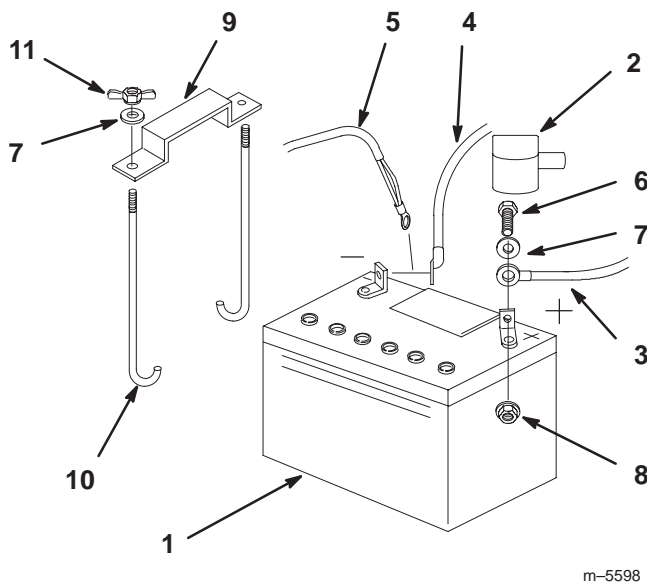

Figure 53
1. Position battery in tray with terminal posts toward the engine (Fig. 53).
4. Secure cables with 2 bolts (1/4 x 3/4 in.), 2 washers (1/4 in.), and 2 locknuts (1/4 in.) (Fig. 53).
6. Secure battery with J-bolts, hold down clamp and 2 washers (1/4 in.), and 2 wing nuts (1/4 in.) (Fig. 53).
3. First disconnect the negative battery cable and ground wire from the negative (-) battery terminal (Fig. 53).
4. Slide the red terminal boot off the positive (red) battery terminal. Then remove positive (red) battery cable (Fig. 53).
5. Remove both wing nuts (1/4 in.) securing the battery clamp (Fig. 53).